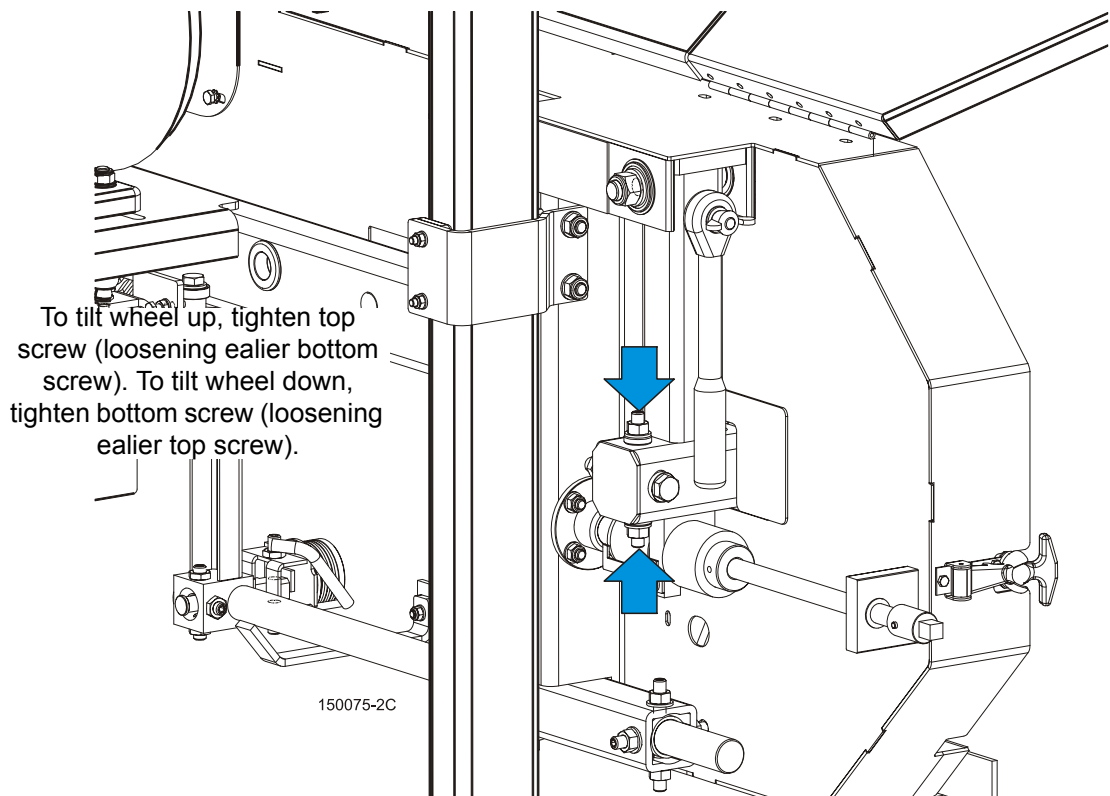

FIG. 3-4
- If the two measurements differ by more than 1/16" (1.5 mm), adjust the vertical tilt of the idle-side blade wheel. See Figure 3-4.
See Figure 3-4. To tilt the idle-side blade wheel up, loosen the bottom adjustment screw 1/2 turn. Loosen the nut on the top adjustment screw and tighten the screw. Tighten the top and bottom nuts.